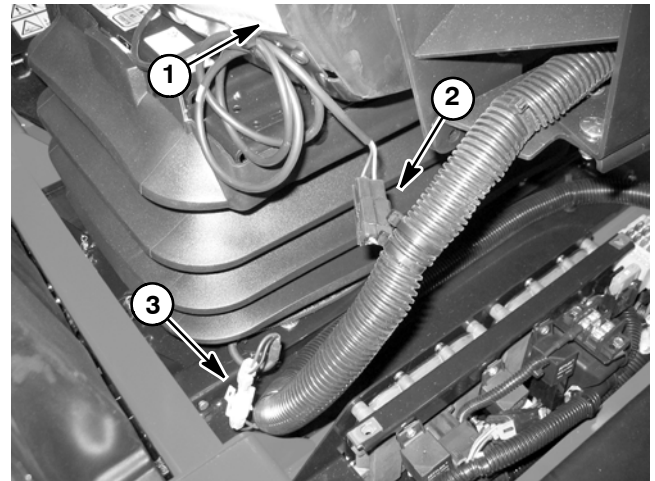

Figure 18
2. Disconnect seat electrical connector from machine wire harness (Fig. 18).
4. Remove flange nut (item 4) and carriage screw (item 1) that secure support bracket (item 3) to support channel (item 2).
5. Remove screw (item 8) that secures control arm support (item 7) to coupler nut (item 9).
6. Remove cap screw (item 5), flat washers (item 6), spacer (item 10) and seat belt latch (item 21) from seat and control arm support (item 7).
A. Secure support bracket (item 3) and support channel (item 2) with flange nut (item 4) and carriage screw (item 1).
B. Secure control arm support (item 7) to coupler nut (item 9) with screw (item 8).
C. Place flat washer (item 6), seat belt latch (item 21) and spacer (item 10) between seat and control arm support (item 7). Secure with cap screw (item 5) and second flat washer (item 6).
4. Connect seat electrical connector to machine wire harness (Fig. 18).